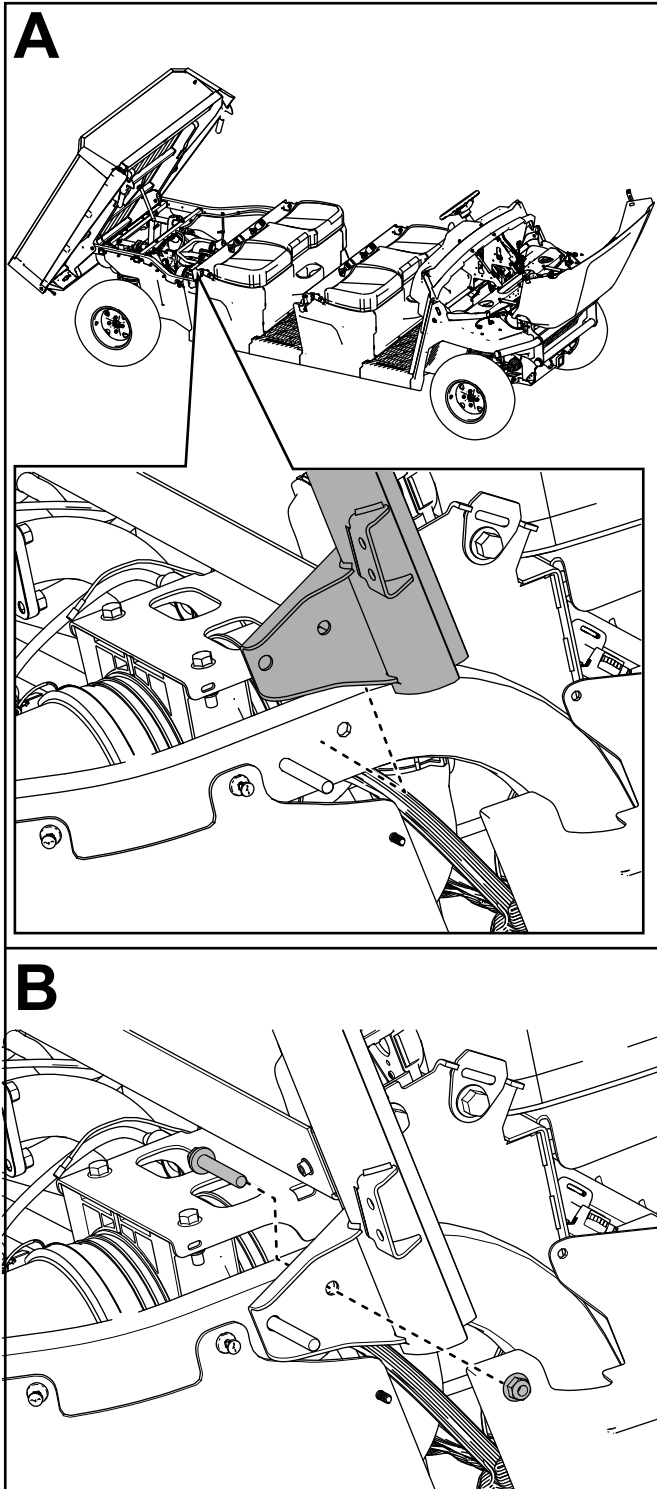

Figure 42
6. Loosely secure the right, rear roll bar assembly to the right, rear frame tube using 1 flange-head bolt (3/8 x 2-1/4 inches) and 1 locknut (3/8 inch) as shown in Figure 42.